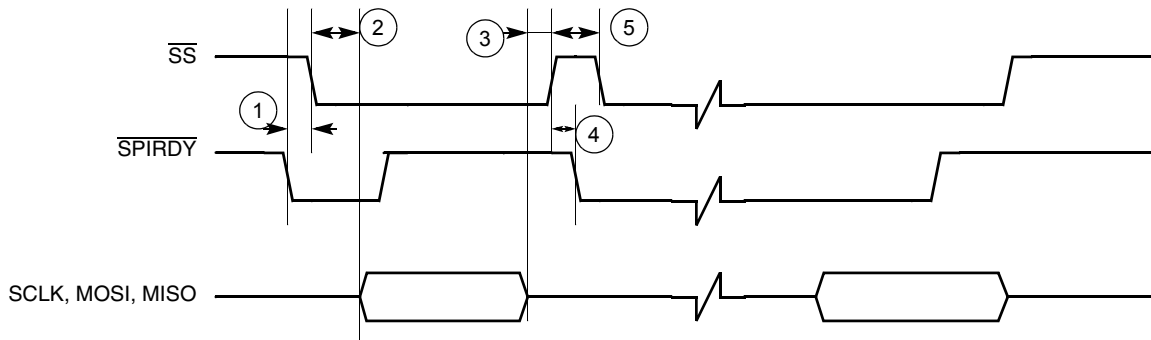
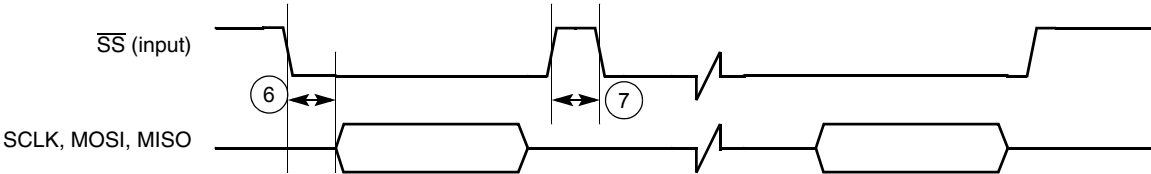

Figure 39. Master SPI Timing Diagram Using $\overline{\text{SPI_RDY}}$ Edge Trigger
Figure 43. Slave SPI Timing Diagram FIFO Advanced by $\overline{\text{SS}}$ Rising Edge
To use the internal transmit (TX) and receive (RX) data FIFOs when the SPI 1 module is configured as a master, two control signals are used for data transfer rate control: the $\overline{SS}$ signal (output) and the SPI_RDY signal (input). The SPI1 Sample Period Control Register (PERIODREG1) and the SPI2 Sample Period Control Register (PERIODREG2) can also be programmed to a fixed data transfer rate for either SPI 1 or SPI 2. When the SPI 1 module is configured as a slave, the user can configure the SPI1 Control Register (CONTROLREG1) to match the external SPI master's timing. In this configuration, $\overline{SS}$ becomes an input signal, and is used to latch data into or load data out to the internal data shift registers, as well as to increment the data FIFO. Figure 39 through Figure 43 show the timing relationship of the master SPI using different triggering mechanisms.
Table 24. Timing Parameter Table for Figure 39 through Figure 43